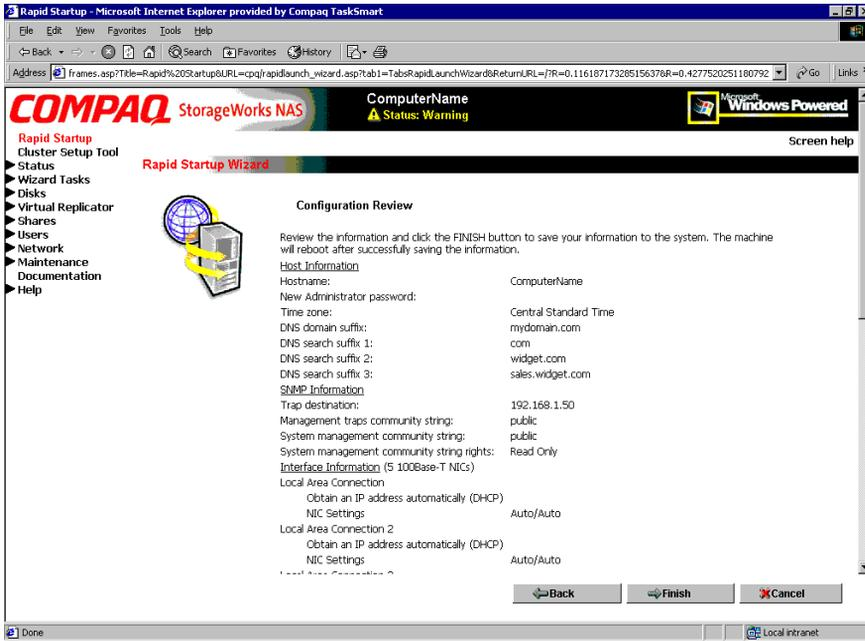

Figure 3-5: Rapid startup configuration review screen
10. Follow the instructions on the screen to input the correct information. Verify that your information is correct when the configuration review screen is displayed as shown in Figure 3-5.
3. Follow the instructions on the screen to input the correct information. Verify that your information is correct when the configuration review screen is displayed as shown in Figure 3-5.